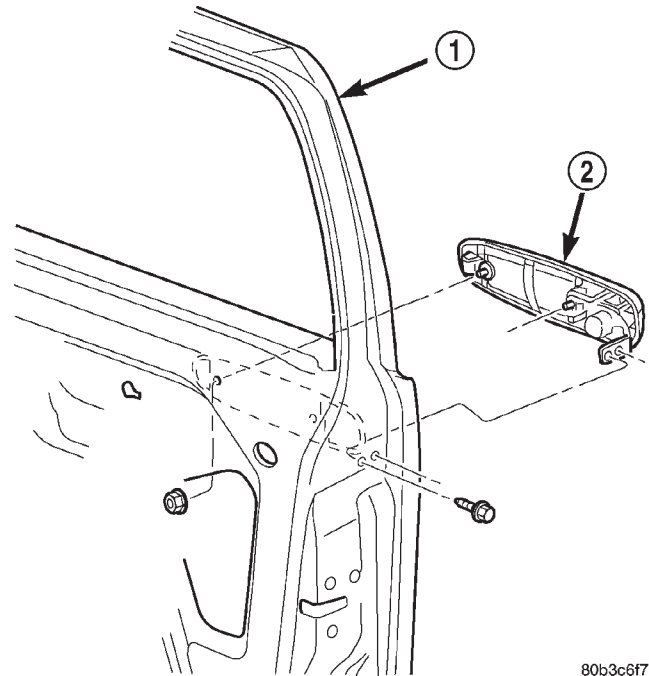

Fig. 5 Front Door Outside Handle
(1) Remove glass run channel, refer to (Refer to 23 - BODY/DOOR - FRONT/GLASS RUN CHANNEL - REMOVAL).
(2) Disconnect lock cylinder to latch rod.
(3) Disconnect outside handle to latch rod
(4) Remove fasteners attaching outside handle to door (Fig. 5).
(5) Remove outside handle from door.
(6) Disconnect anti-theft harness connector, if equipped.
(7) Separate outside handle from vehicle.
(1) Position outside handle at door (Fig. 5).
(2) Connect anti-theft harness connector, if equipped.
(3) Position outside handle in door.